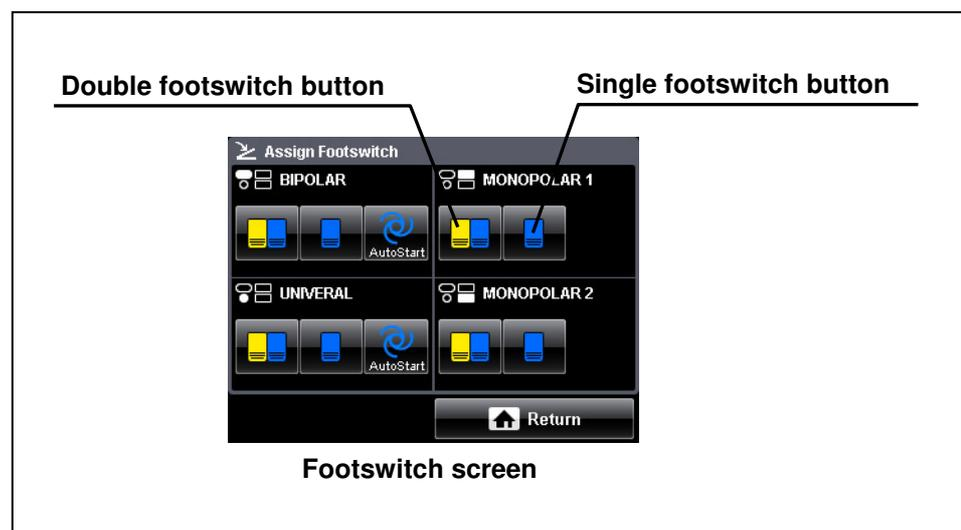

Figure 4.8
3. Press the "Double footswitch indicator" of the "MONOPOLAR 1 output socket" (see figure 4.8).